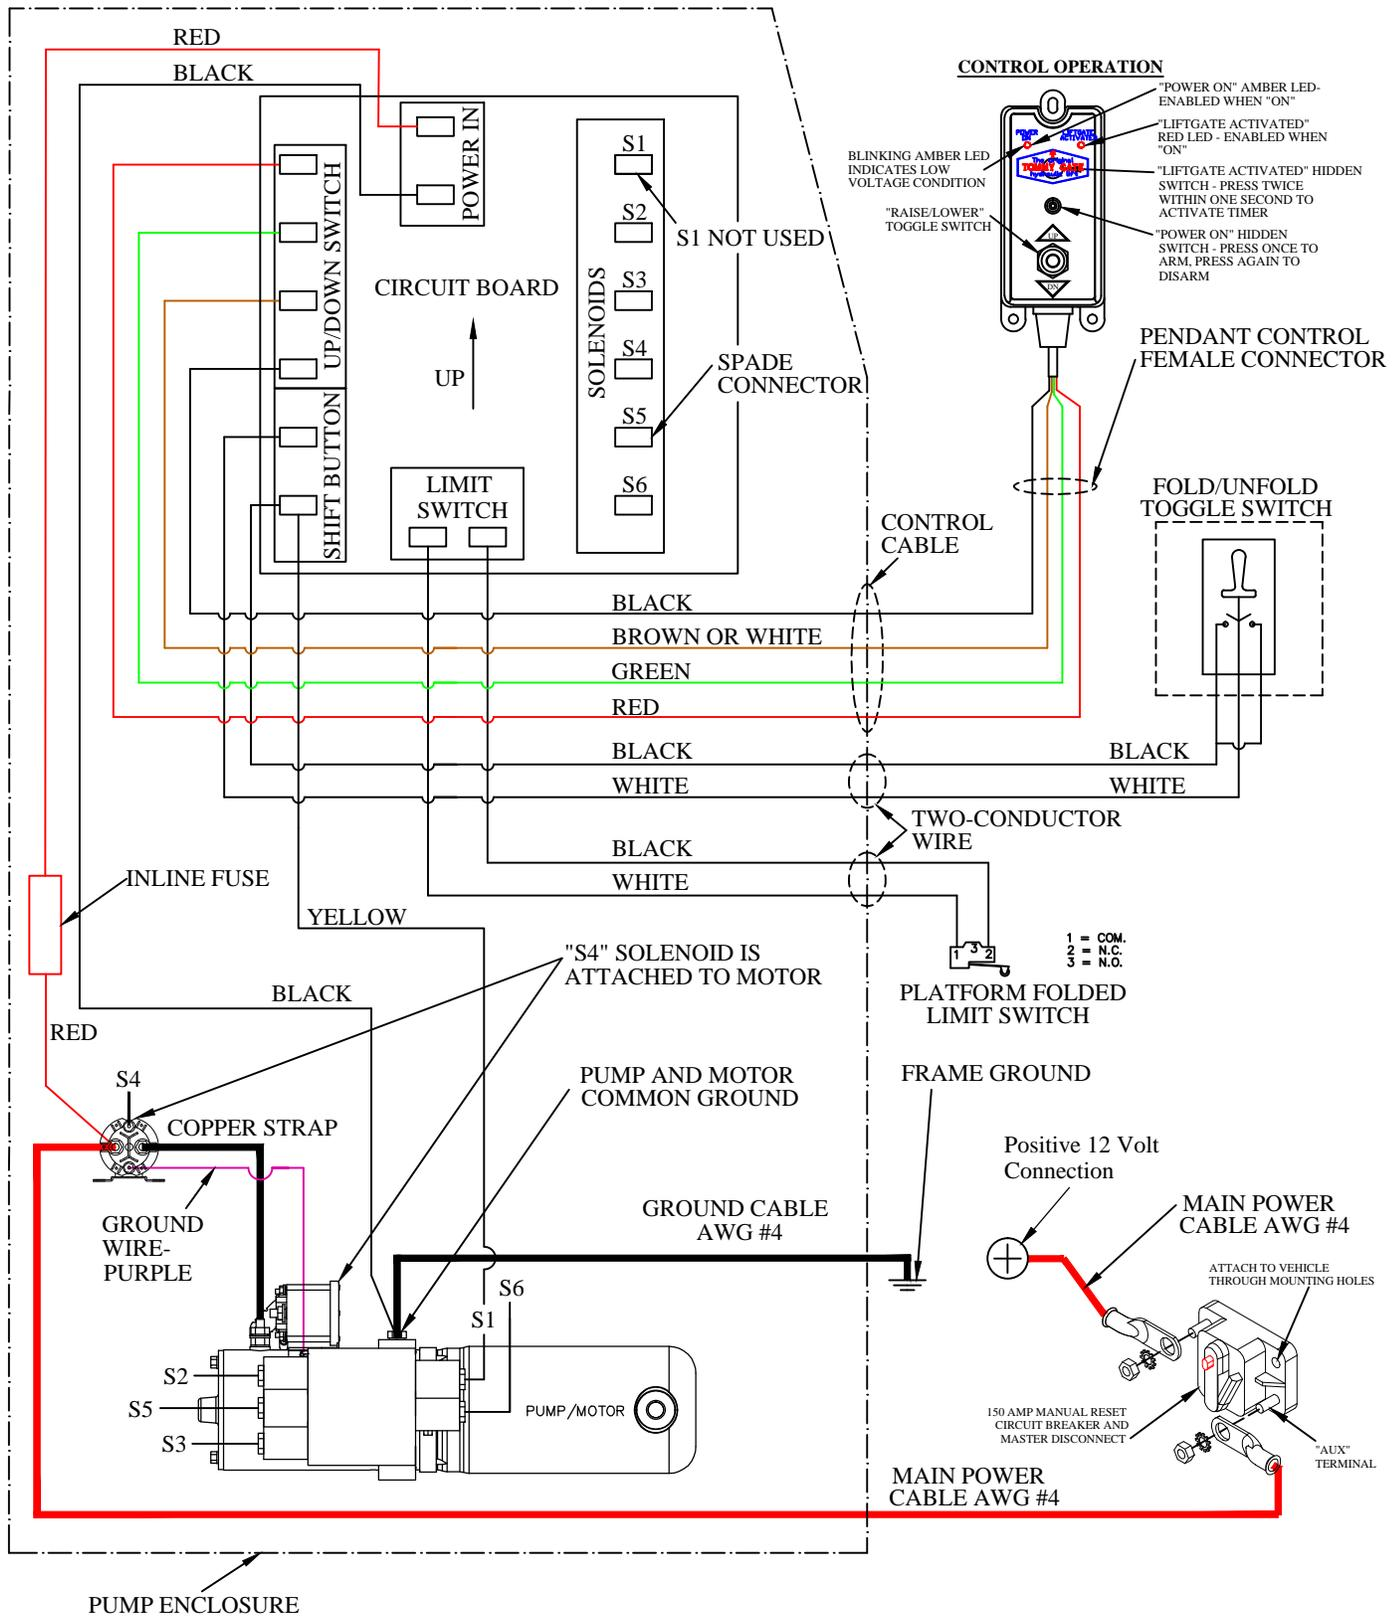

Figure 17: Wiring diagram.
Note: Follow the *Tommy Gate Recommended Electrical Wiring Guidelines* and wiring diagram (Figure 17) in the following steps.
12. **Connect** the circuit breaker (Figure 17). Use the supplied heat shrink tubing.